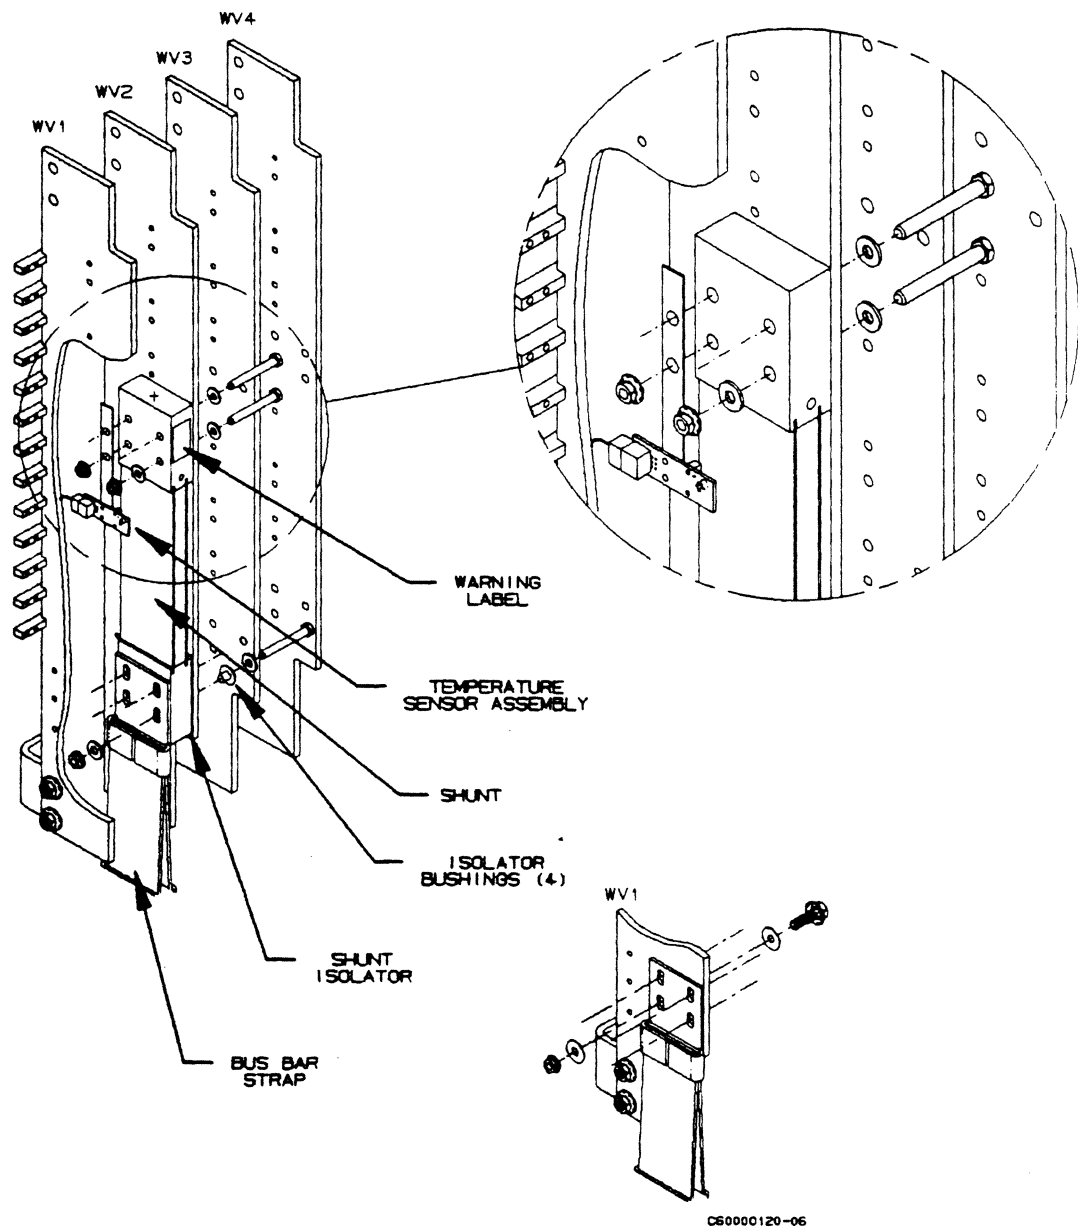

Figure 3-26. Connecting Shunt and Braided Bus Bar Straps
- ___ 2. Lightly clean contact areas of shunt, WV2 braided bus bar strap, and WV2 (figure 3-26) with Scotch Brite and apply light coating of EJC #2.